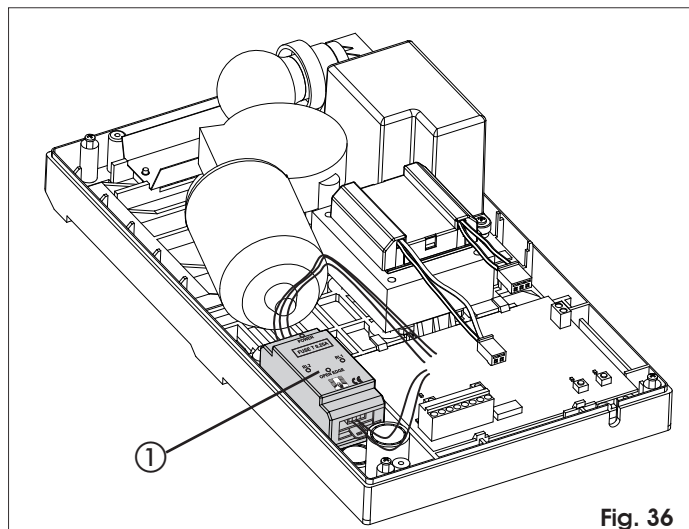

Fig. 36
The use of the safety edge with conductive element, is facilitated because the control unit (Fig. 36 ref. ①) can be housed on board the operator.
- House the control unit as shown in Fig. 36.